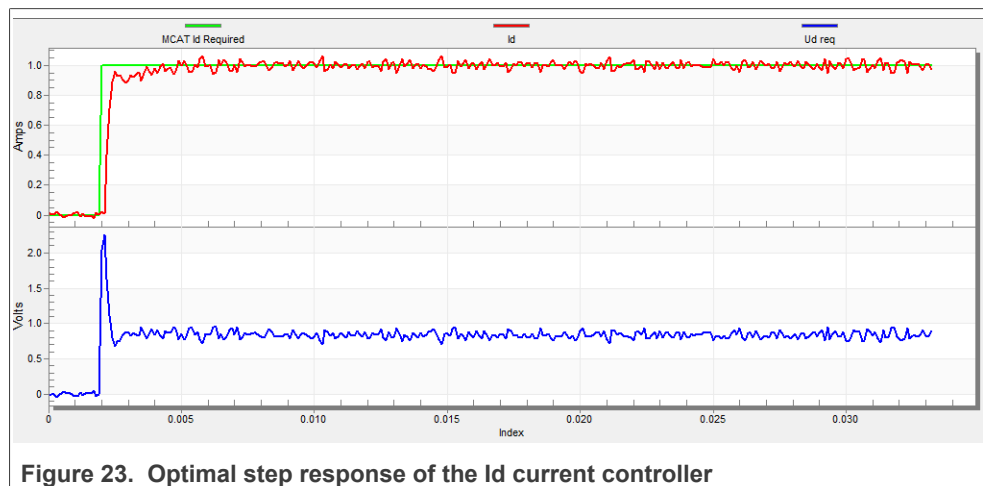

Figure 23. Optimal step response of the Id current controller
- The loop bandwidth (400 Hz) is optimal and the response time of the Id current is sufficient (see Figure 23).